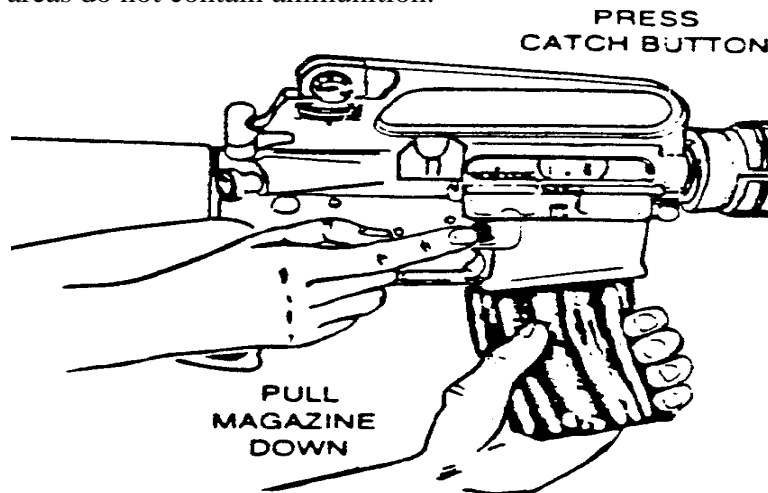

Figure 5. Removing the magazine
- c. Remove the magazine from the weapon by grasping it with the left hand, press the magazine release button with your right index finger, and pull the magazine straight down (see figure 5).